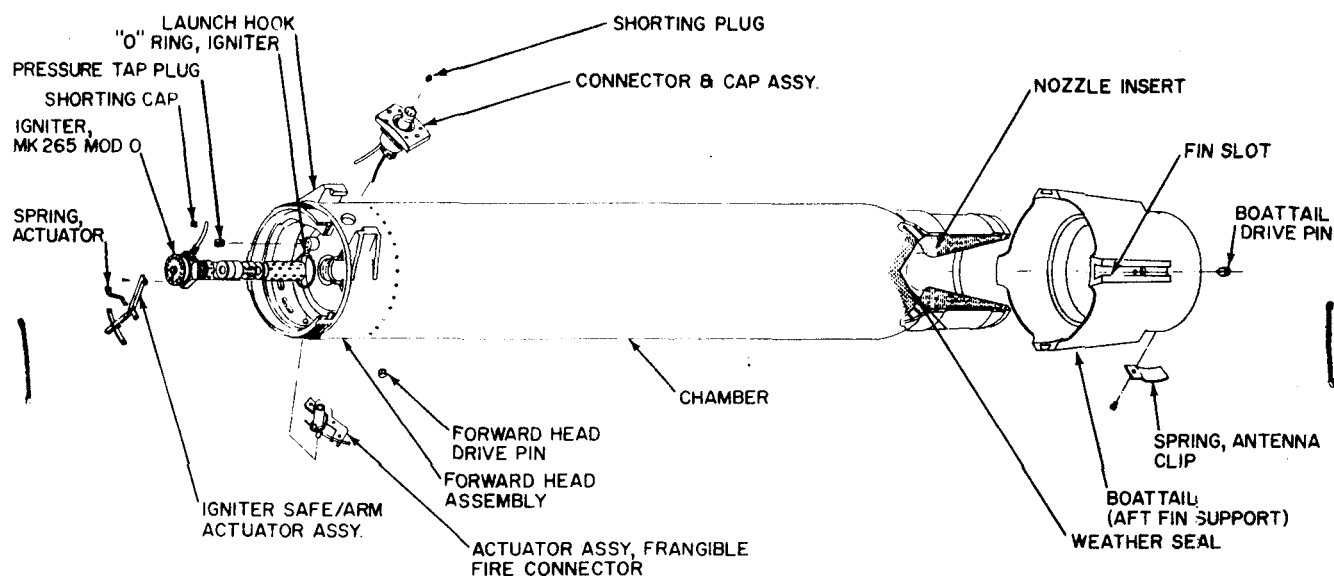

Figure 5-34. Rocket Motor, MK38 All Mods, Cutaway View
(1) AIM-7D: Approximately 70 pounds solid propellant with MK 6 rocket motor.
(2) AIM-7E: Approximately 90 pounds solid propellant MK 38 and MK 52 rocket motors (reference figure 5-34).